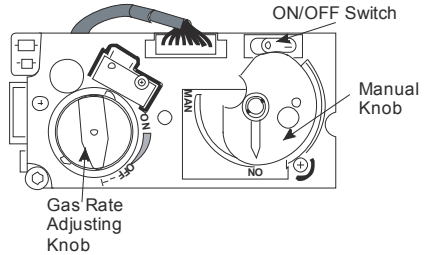

Figure 9
1. Ensure that gas is available at the valve and the ON/OFF switch in the ON position (→). (See **Figure 9**)